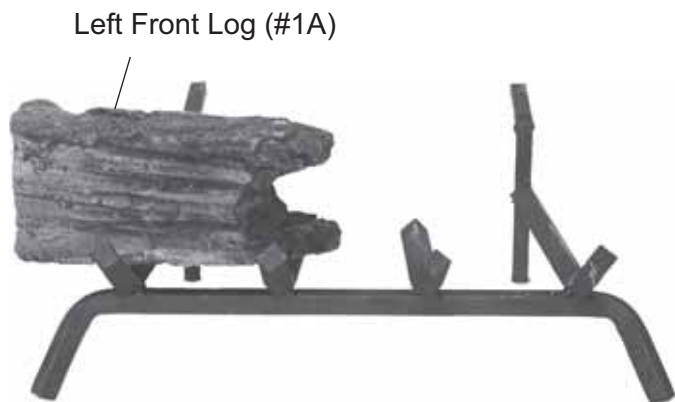

Figure 94 - Placing Left Front Log #1A on Grate
2. Place Left Front Log #1A on front left of grate. *See Figure 94.*